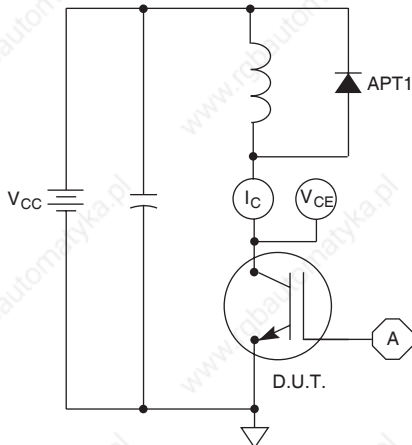

Figure 21, Inductive Switching Test Circuit
⑤ E_{on2} is the clamped inductive turn-on energy that includes a commutating diode reverse recovery current in the IGBT turn-on switching loss. (See Figures 21, 22)
⑥ E_{off} is the clamped inductive turn-off energy measured in accordance with JEDEC standard JESD24-1. (See Figures 21, 23)
⑦ R_G is external gate resistance, not including R_{Gint} nor gate driver impedance. (MIC4452)